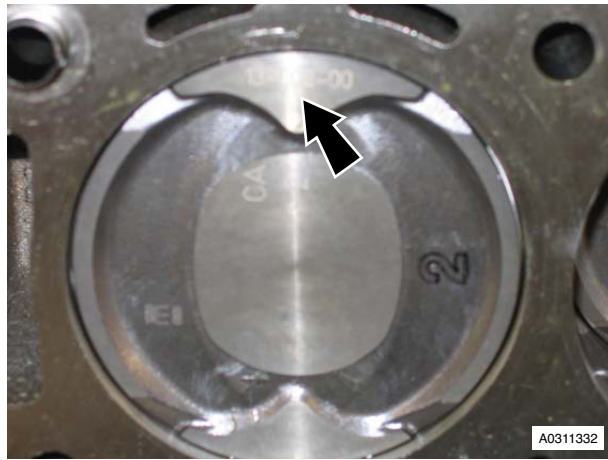

Figure 16
33. Note that piston grade number on crown and thick flange on connecting rod faces to front of engine on Right Hand bank (A) (see Figure 16).